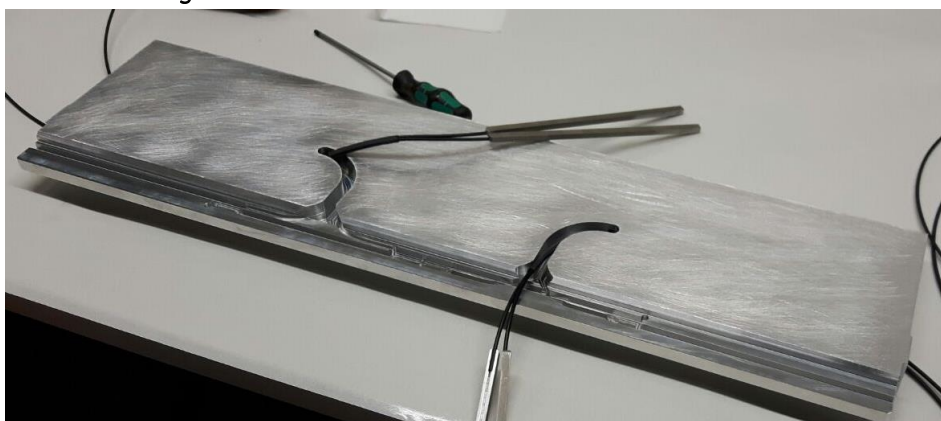

Figure 18 Sets of light bars thread into endplug
3.2.3.2 Start by making two sets of two light bars. To prevent the cables jumping out later, assemble the set with the shrinking tube (without applying heat!!!) and thread it into the routing groove until the VCSEL pocket as shown in "Figure 18".